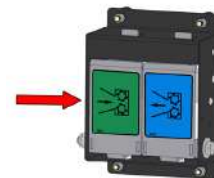

Figure 17 - Forward Feed Control
4. Press the **GREEN** Forward Feed Control (Figure 17).